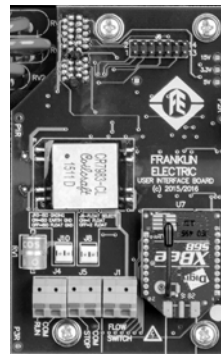

Figure 3
6. With the Wi-Fi Module cut-corners facing down (and the wire antenna facing up), mount over the two headers (see Figure 3).